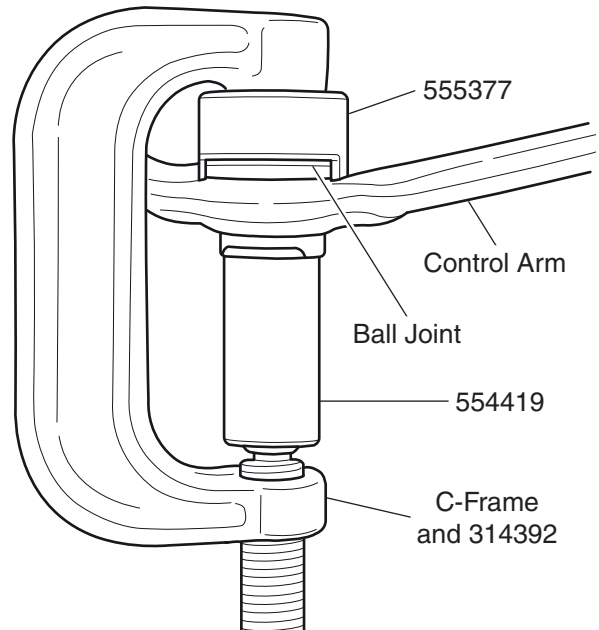

Figure 1. Ball Joint Removal
3. Position 554419, 314392 and the C-Frame as shown in Figure 1.